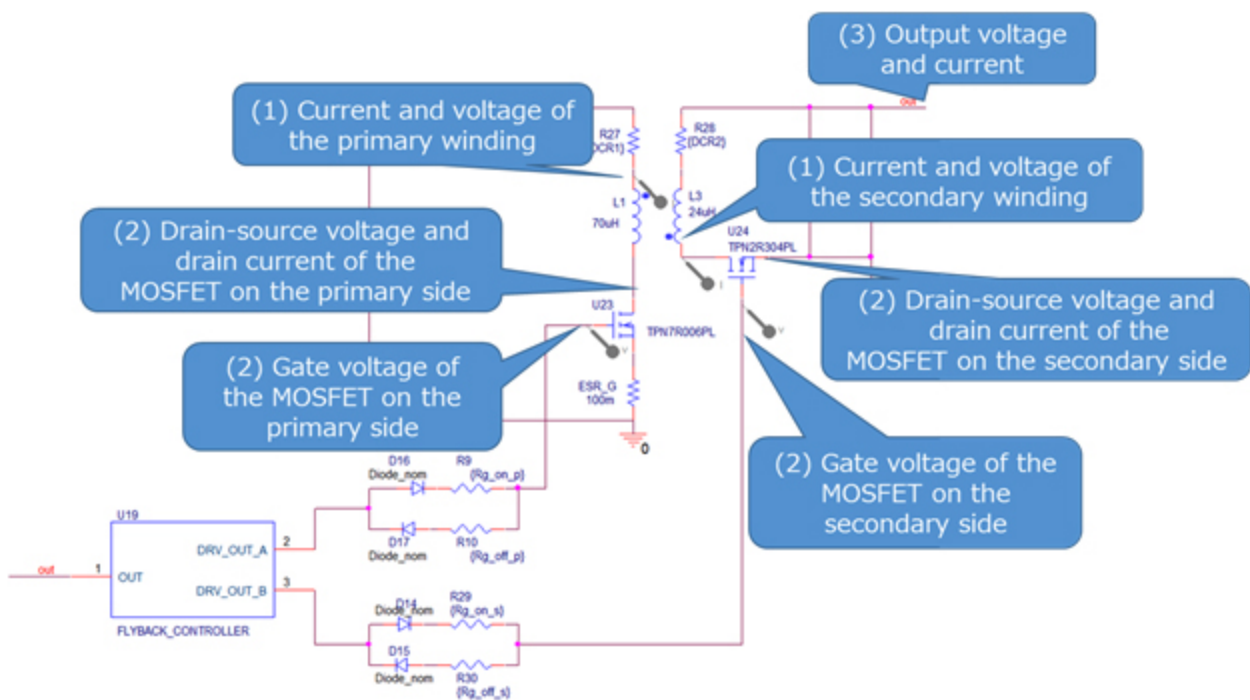

Figure 3.1 Current and voltage measurement points during simulation
This section shows the simulation waveforms at the points (1) to (3) shown in Figure 3.1.
- (1) Basic operation of the flyback DC-DC power supply (current and voltage of the primary and secondary windings related to the flyback operation)
- (2) Synchronous rectification on the secondary side (gate voltage, drain-source voltage, and drain current of the MOSFETs related to synchronous rectification)
- (3) Output voltage and current from the flyback DC-DC power supply